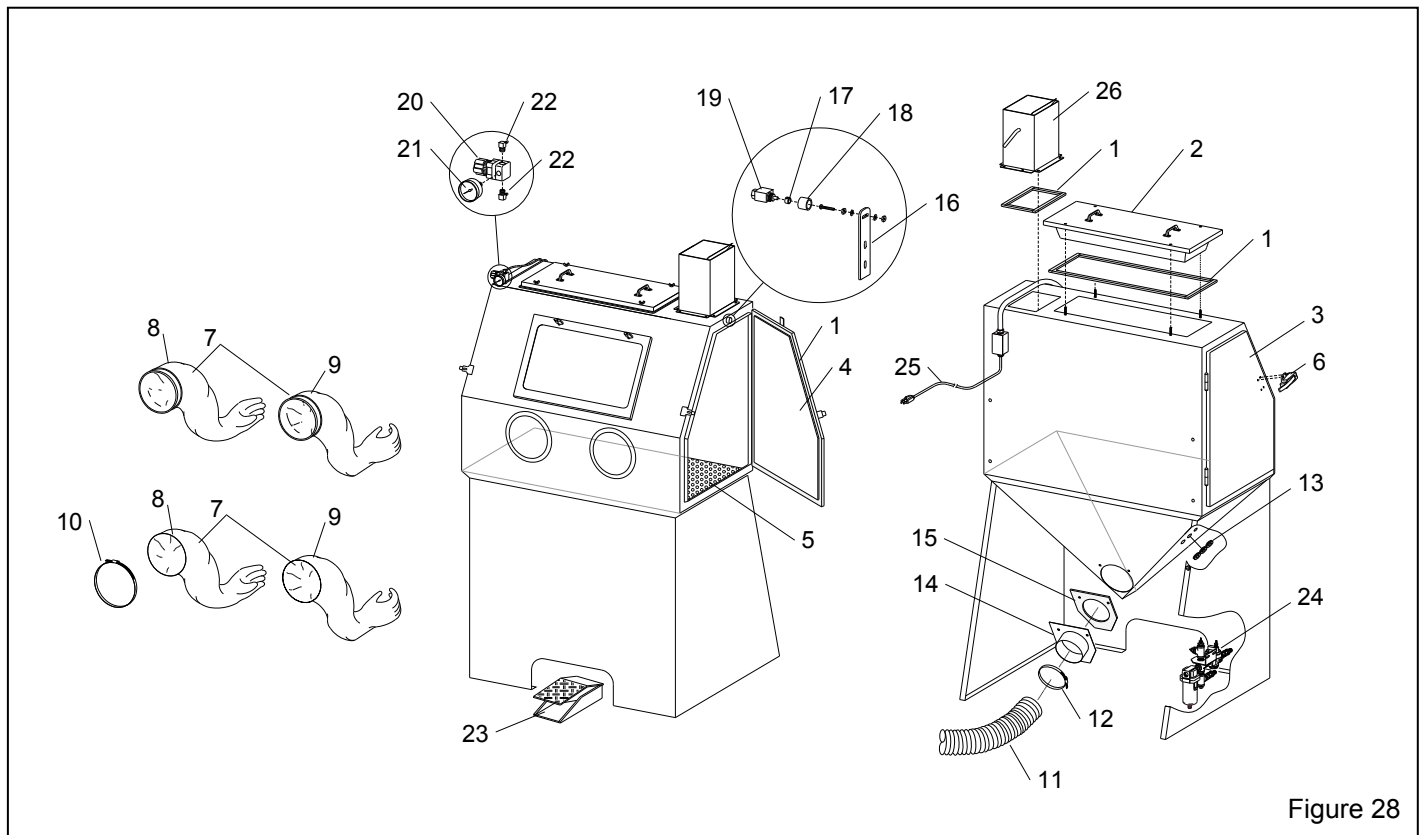

Figure 28
9.2 Cabinet Replacement Parts, Figure 28